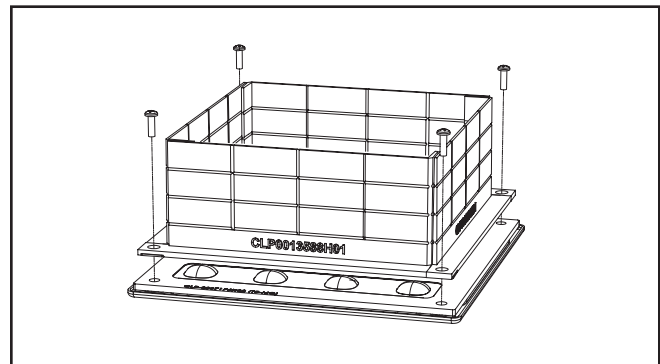

Figure 4.
5. Fasten the light square and shield(s) in place with the screws provided. (FIG. 4)